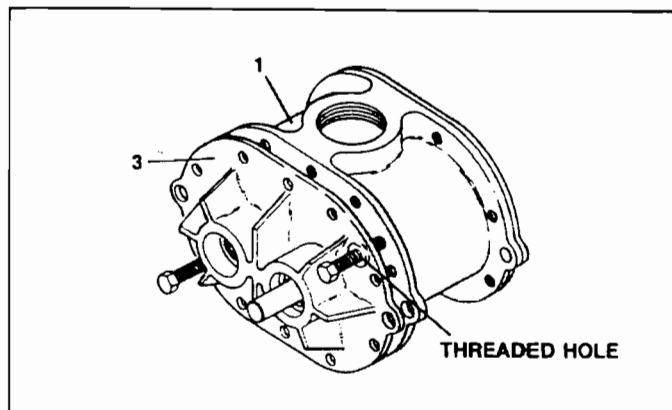

FIGURE D-3
Drive out the dowel pins (9) and remove the capscrews (15) holding the front end plate (3) to the cylinder (1) on the drive end. To separate the front end plate from the cylinder insert the appropriate size screws into the two threaded holes in the front end plate flange and alternately tighten them against the cylinder. The endplate will separate from the cylinder and bring the bearings with it. (Refer to Figure D-3.)